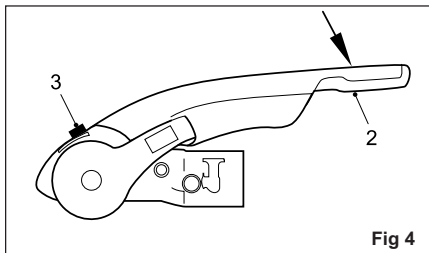

Fig 4
**WARNING:** The coupling is correctly engaged when the green edge of the safety indicator button is visible (Fig. 4/Item 3).
- To operate the Stabiliser (once coupled to the towball), simply press the stabiliser lever down as far as it will go (Fig. 4/Item 2).